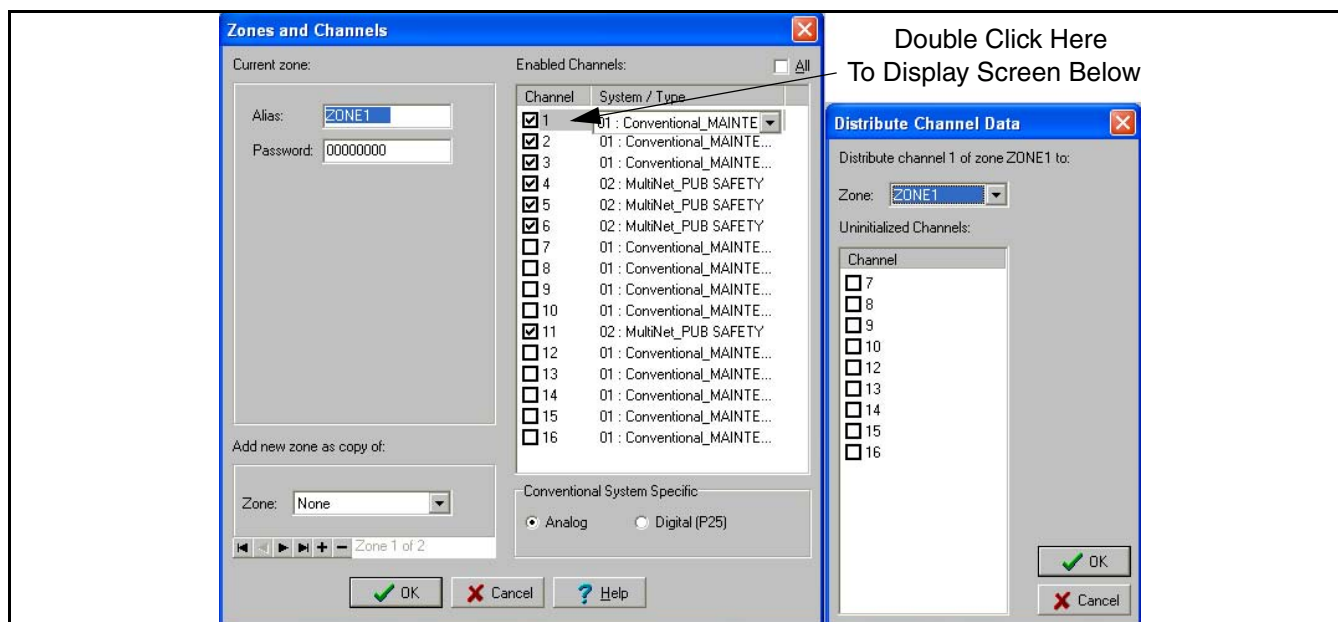

Figure 6-1 Edit Zones and Channels Screen
1. Select the Zone screen (see Figure 6-1). Then click  to display the Edit Zones and Channels screen shown in Figure 6-1. Alternatively, click  in the toolbar.
1. If necessary, select the Zone screen (see Figure 6-1) and then click  to display the Edit Zones and Channels screen shown in Figure 6-1. Alternatively, click  in the toolbar.
Channels are set up by assigning them to a zone in the Edit Zones and Channels screen shown in Figure 6-1. Proceed as follows to set up Multi-Net channels.
5. To copy an enabled channel to unprogrammed channels of the current zone or other zones, double click the shaded area of the channel as shown in Figure 6-1. The “Distribute Channel Data” screen is then displayed to select the desired channels.